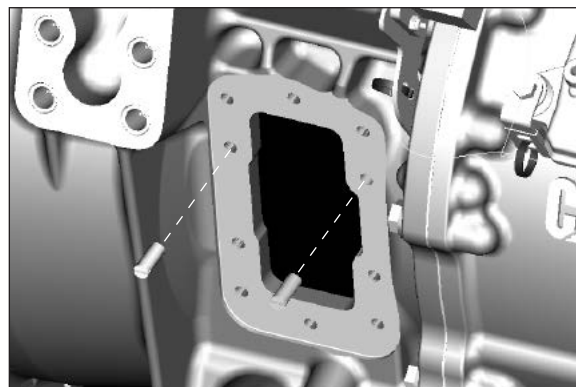

Figure 30
3. Using a screwdriver, install the guide pins until they bottom out (**Fig. 30**) (see page 38).